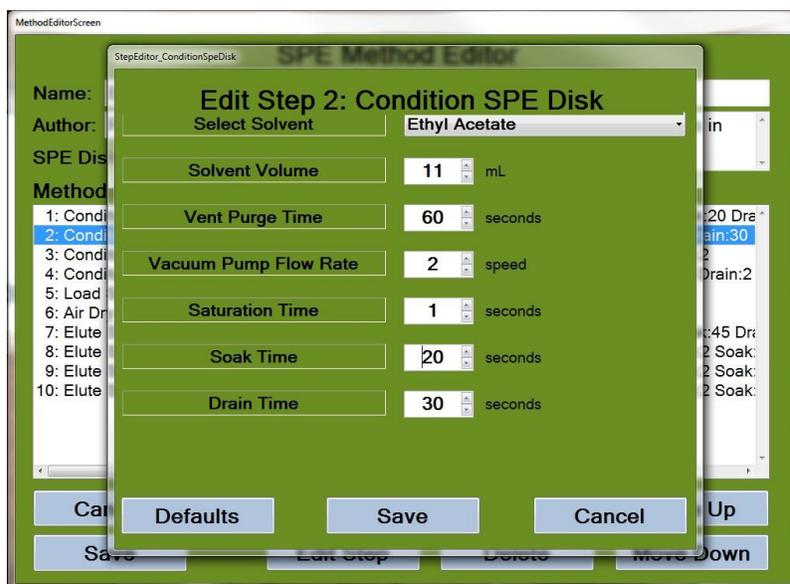

Figure 6-37. Edit Step 2: Condition SPE Disk Screen with Values Entered
- Step 8:** Click the *Save* button. At this point, the fastest and easiest way to create a method is to use the *Duplicate* button. When the duplicate button is clicked, a duplicated line appears in the Method Editor window. Double click the highlighted step, or click the *Edit Step* button. Using the Select Solvent drop down box, change the solvent from methylene chloride to ethyl acetate. Leave the other values as they are. The screen should look like the one in Figure 6-37.